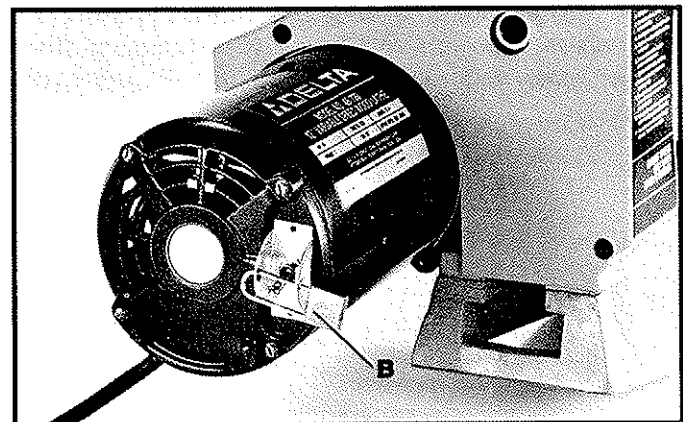

Fig. 16
**IMPORTANT:** We suggest that when the lathe is not in use the switch be locked in the "OFF" position using a padlock (B) Fig. 16, through the holes in the switch bracket, as shown.